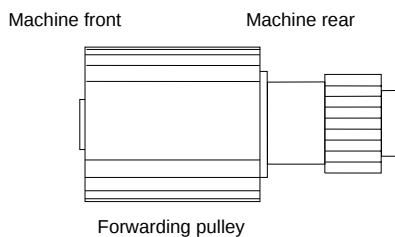

Figure 3-3-6
- When fitting the forwarding pulley, orient it correctly as shown in Figure 3-3-6.